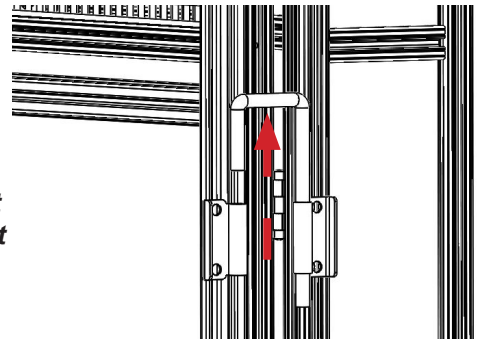

FIGURE 2.2 - Retaining Pin
STEP 1: Retaining pin - Slide the pin out of the pin receiver. Repeat this step for each side. See FIGURE 2.2